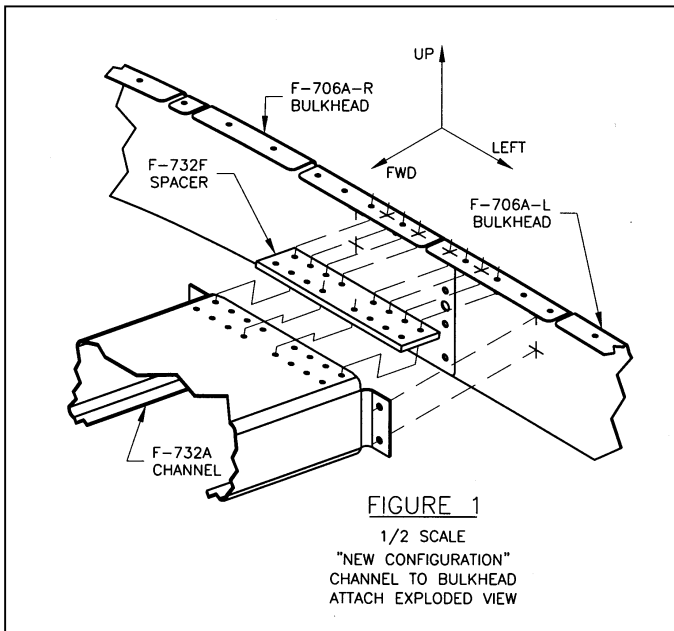
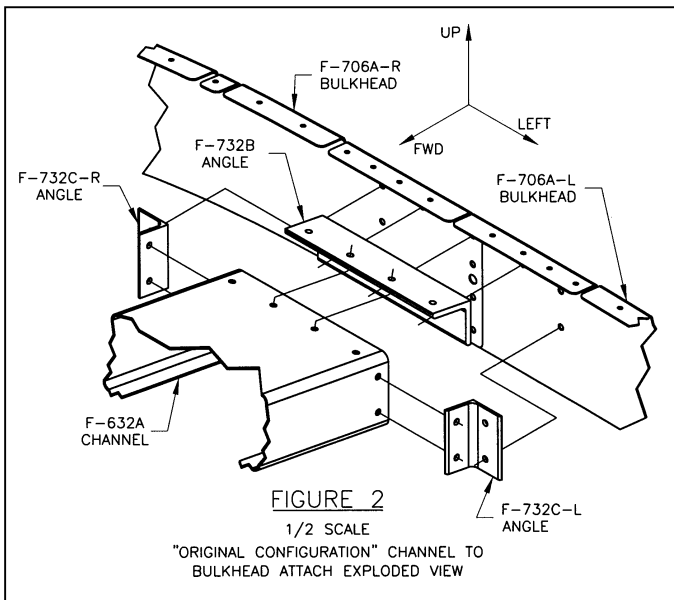
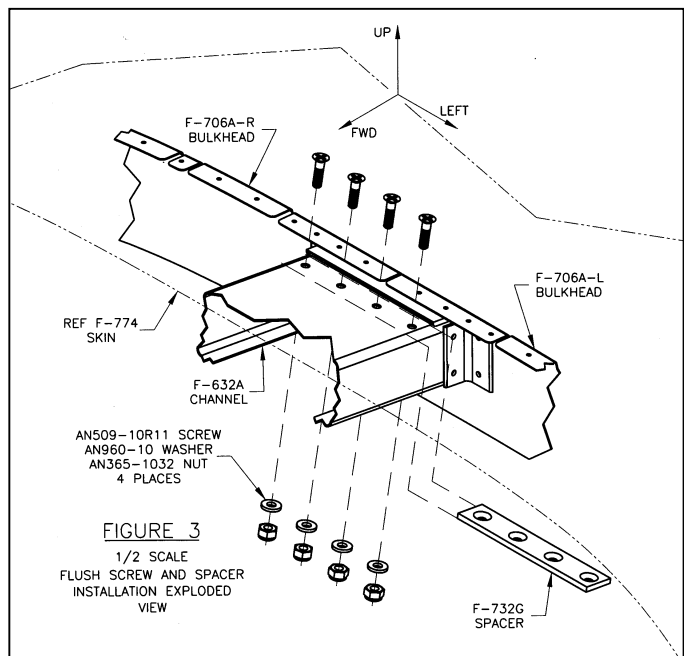

FIGURE 1
FIGURE 2
FIGURE 3
**BACKGROUND AND INTRODUCTION:** This Bulletin shows changes to the configuration of RV-7 and RV-9 Tip-Up Canopy Fuselage Kits shipped prior to December 19, 2004. The new configuration is shown in Figure 1. The original configuration is shown in Figure 2. Also see RV-7/9 Drawing 40. The "new configuration" provides a more direct load path from the F-732A Channel to the F-774 Aft Fuselage Top Skin. Additionally, the new configuration is simpler to install and slightly lighter.
When completed, all Tip-Up RV-7 and RV-9 fuselages must be as shown in Figure 1 or as shown in Figure 3.
"Original configuration" Tip-Up RV-7 and RV-9 fuselages which have not yet had F-732C-L/R attach holes drilled through the F-706A-L/R Bulkhead (See Figure 2) may easily be assembled using "new configuration" parts. If your fuselage falls within this criteria, contact Van's Aircraft and request the **"7/9 TIP-UP NEW CONFIG"** kit.
"Original Configuration" Tip-Up RV-7 and RV-9 fuselages which are completed past the point of drilling F-732C-L/R attach holes through the F-706A-L/R Bulkhead must have screws and spacer installed as shown in Figure 3. If your fuselage falls within this criteria, contact Van's Aircraft and request the **"7/9 TIP-UP SPACER KIT"**.